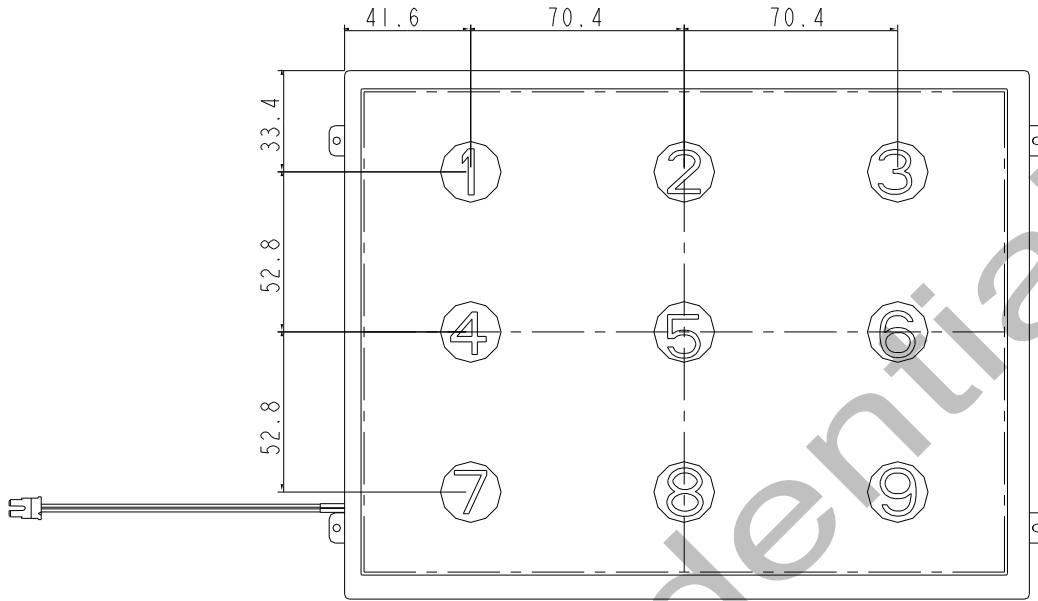

Fig7-1 Measuring point
- *3) Definition of luminance : Measure white luminance on the point 5 as figure7-1
Definition of Luminance Uniformity: Measure white luminance on the point1~9 as figure7-1